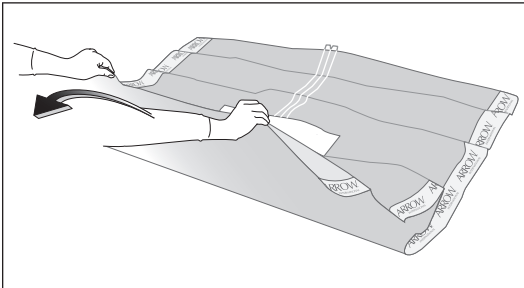

Figure 20
- Unfold towards hand (refer to Figure 20).